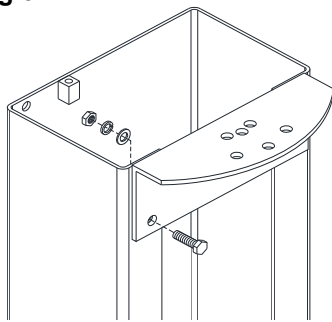

Fig 3 - Column Extension
- 4) Assemble Overhead Mounting Bracket to the Column Extension using (4 sets) M12 x 25 Hex bolts, flat washers, lock washers, and nuts. Repeat for opposite bracket and extension. See **Fig 3** below.